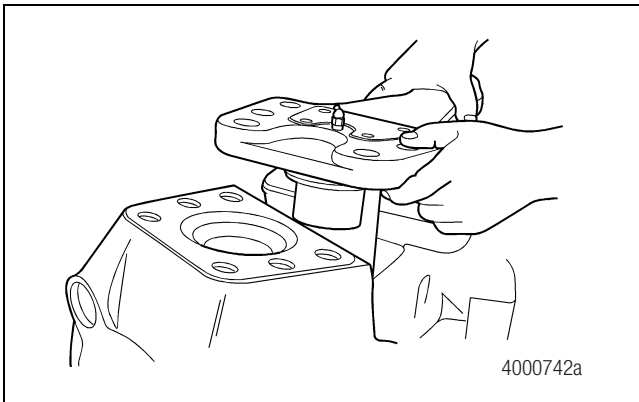

Figure 4.6
6. Lift the upper knuckle cap or steering arm from the bore. Keep the shims together for use at reassembly. Figure 4.6.